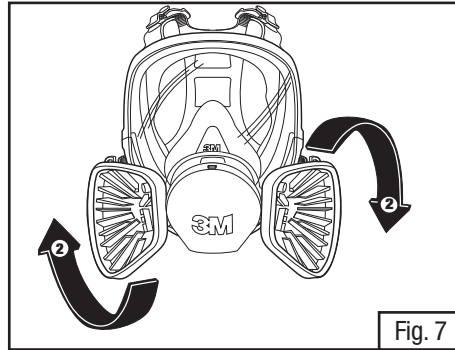

Fig. 7
2. Turn adapter 1/4 turn clockwise to stop. To remove adapter, turn 1/4 turn counterclockwise (Fig. 7).